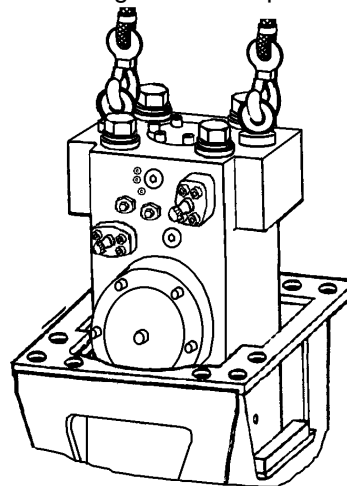

Fig. 4
- Using a hoist/crane, lift the percussion mechanism of the HM 1000 out of the hammer box (Fig. 4).